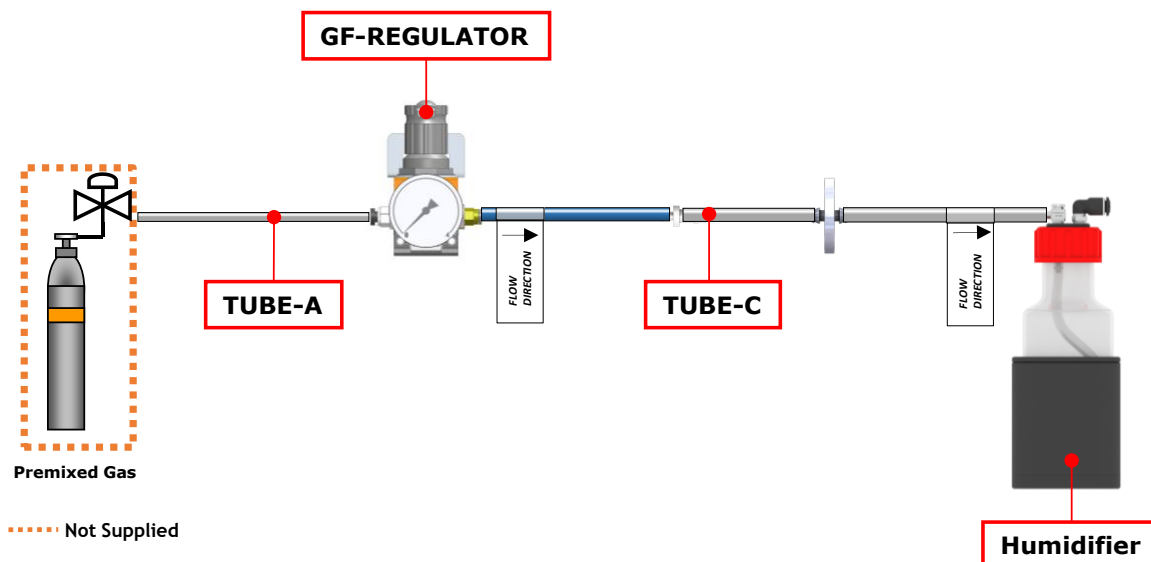

Figure 13. UNO-T-H-PREMIXED - Gas connection.
1. Install the GF-REGULATOR between the premixed gas supply and the Humidifier (see Figure 13). Use TUBE-A to connect the premixed gas supply to the push to fit input connector for a 6 mm O.D. rigid tube of the GF-REGULATOR (see Figure 13).
2. Connect the blue rigid end of TUBE-C to the output connector of GF-REGULATOR. Connect the silicon end of TUBE-C to the Gas Inlet gas connector of the Humidifier (see Figure 13). TUBE-C is equipped with a PTFE filter in the middle. Make sure to install the TUBE-C in the direction of the gas flow indicated by the labels on both ends of TUBE-C and on both sides of the PTFE filter.